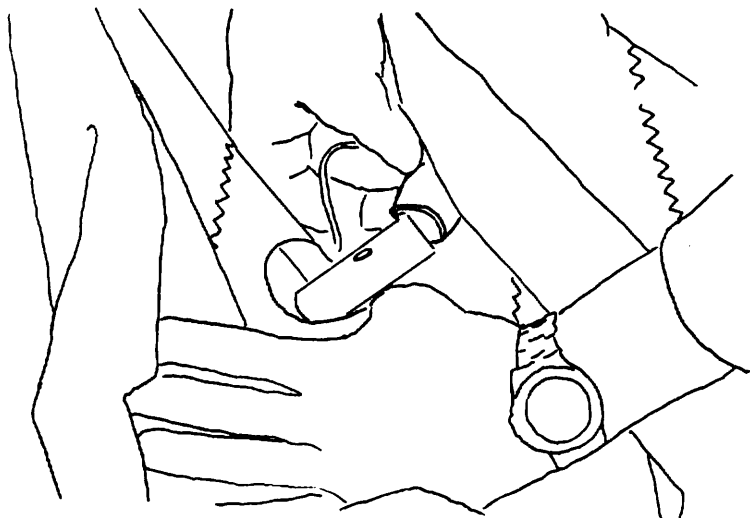
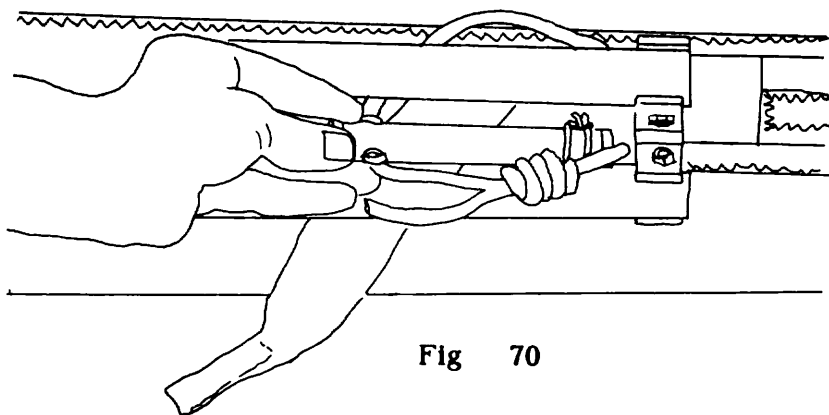

Fig 69
Fig 70
11) Place the last velcro around the sail near the rear end of the leading edges. Place the bag on the glider with the flag at the tail end. Install the protective rubber caps on the washout studs. (Fig 69) Lay the glider on the ground, disassemble the control bar and fold it rearwards. Align the spreader bar between the control bar downtubes as shown. (Fig 70)